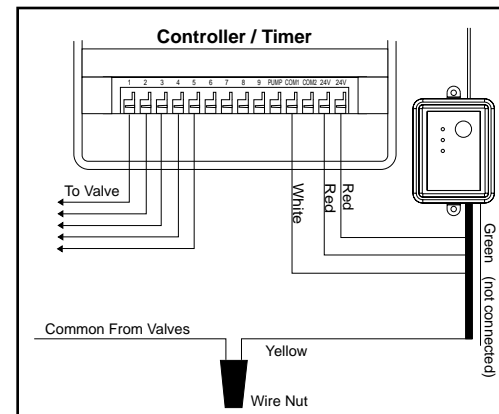

Figure 6: Wiring Sprinkler Timer with out Sensor
3. Disconnect the common valve wire from the timer, and attach it (using a wire nut) to the yellow (normal closed) wire from the rain/freeze receiver. (see figure 6)
5. Connect the (2) red "24V" wires to the 24V terminals of the timer.